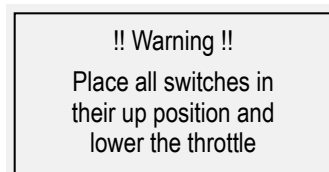

Fig. 4
- If not all auxiliary switches are in their neutral or zero position (position 1) a warning message (See. [Fig. 4]) will appear and audible alert sounds be emitted. In this case, turn the »Transmitter off and set all switches to position 1 before turning it on again.